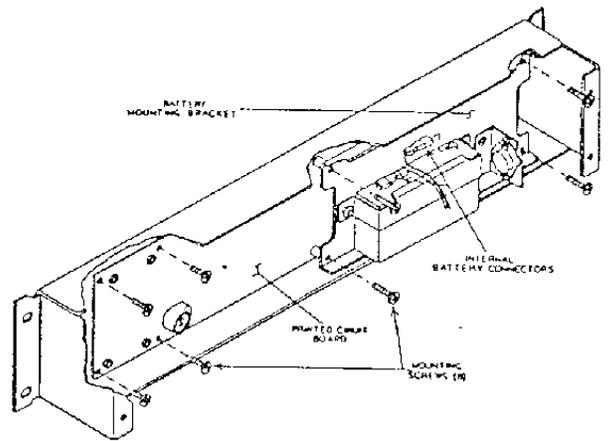

Figure 2
5. Loosen the eight (8) screws, including those with spacers, which secure the printed circuit board to the front case cover. (See Figure 2.) Do NOT remove the battery mounting bracket.
11. Replace the eight (8) mounting screws. (See Figure 2.) Be sure to tighten all screws until they are flush, paying particular attention to those with spacers.